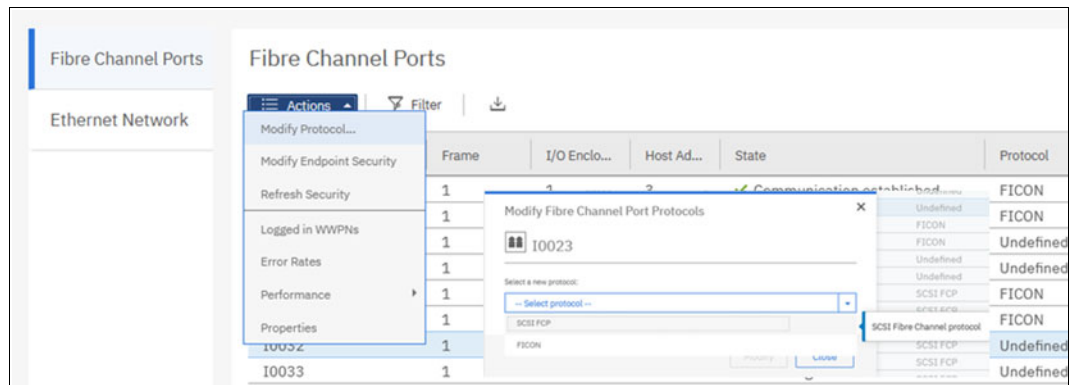

Figure 9-53 Modify FCP Protocol window
3. From the Actions tab, click **Modify Protocol** to open the Modify Protocol window, as shown in Figure 9-53.